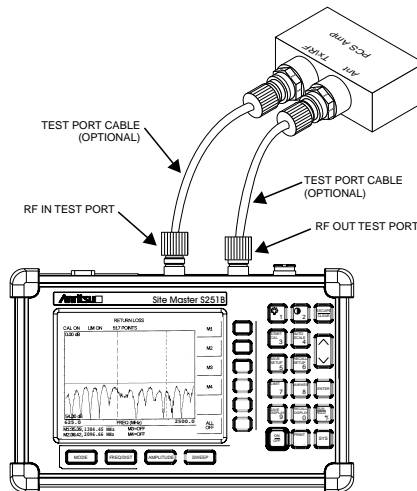

Figure 4-20. Amplifier Gain Measurement Setup
Step 13. Connect the amplifier to the test port extension cables as shown in Figure 4-20.